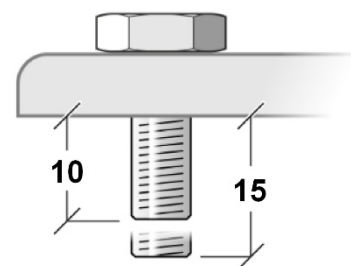

Figure 6. Min./max. bolt protrusion into fixture base (millimeters)
1. Obtain a suitable half-coupler type rigging clamp. See Figure 6. Pass an M10 grade 8.8 steel bolt through the rigging clamp and check that the bolt will protrude minimum 10 mm / 0.4 in. and maximum 15 mm / 0.59 in. into the base of the fixture when tightened.